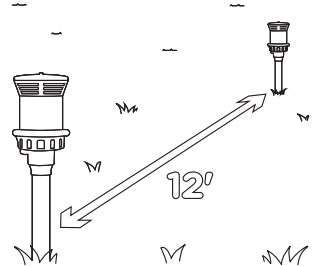

Fig. 5
2. Fixtures should be placed 12 feet or less apart surrounding perimeter of protection area. (Fig. 5)